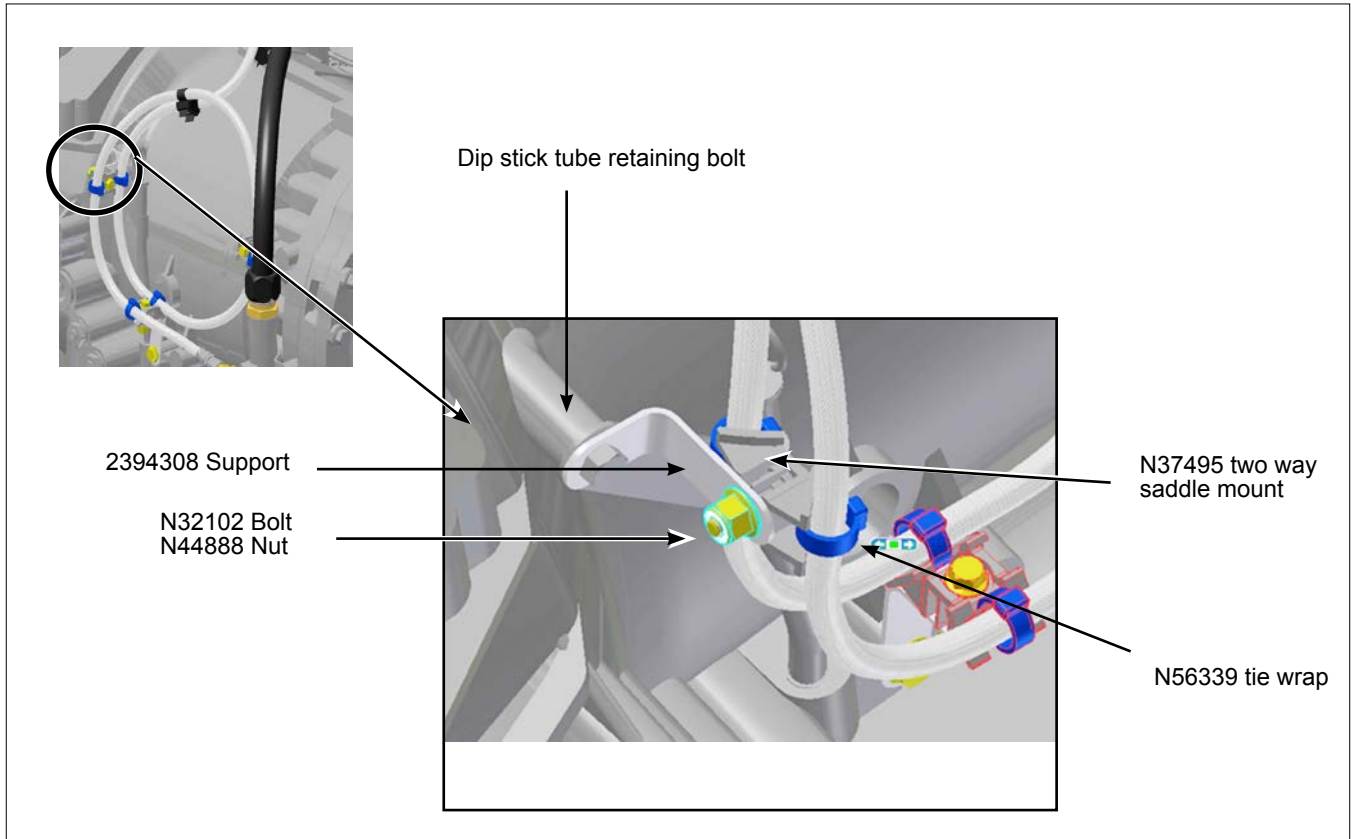

Figure 6 - Affixing the Upper Portion of the Hose
1.10. Install the 2394308 support with the existing transmission dip stick tube retaining bolt. See Figure 6.
1.11. Install one N37495 two way saddle mount with one N32102 bolt and N44888 nut as specified in Figure 6